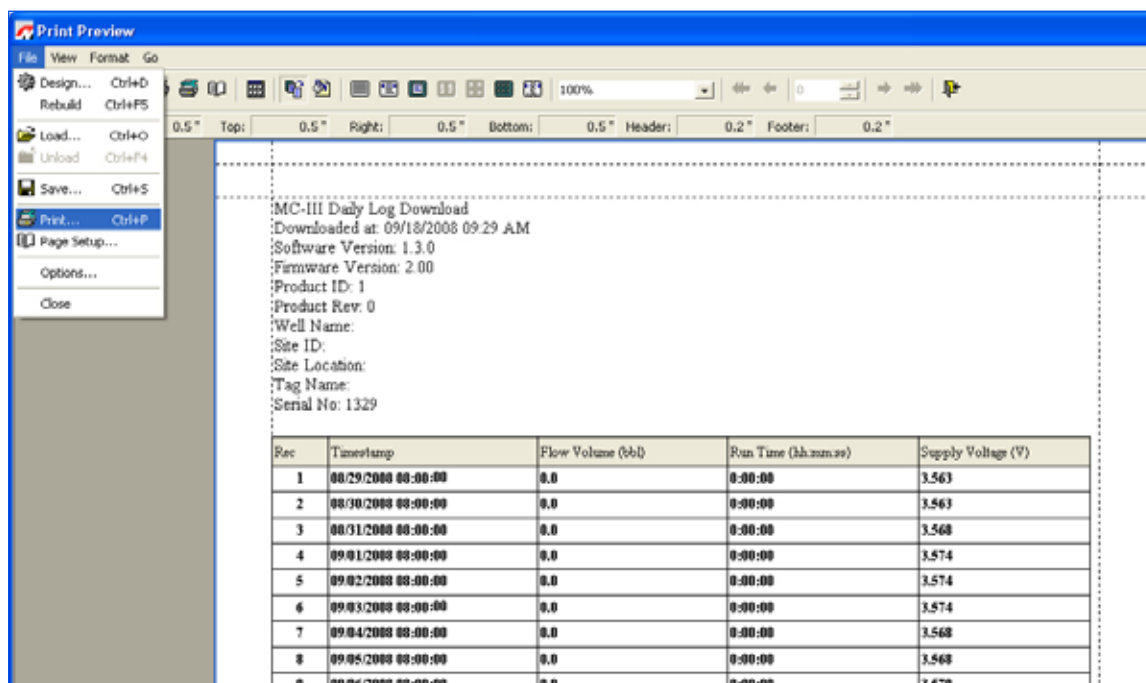
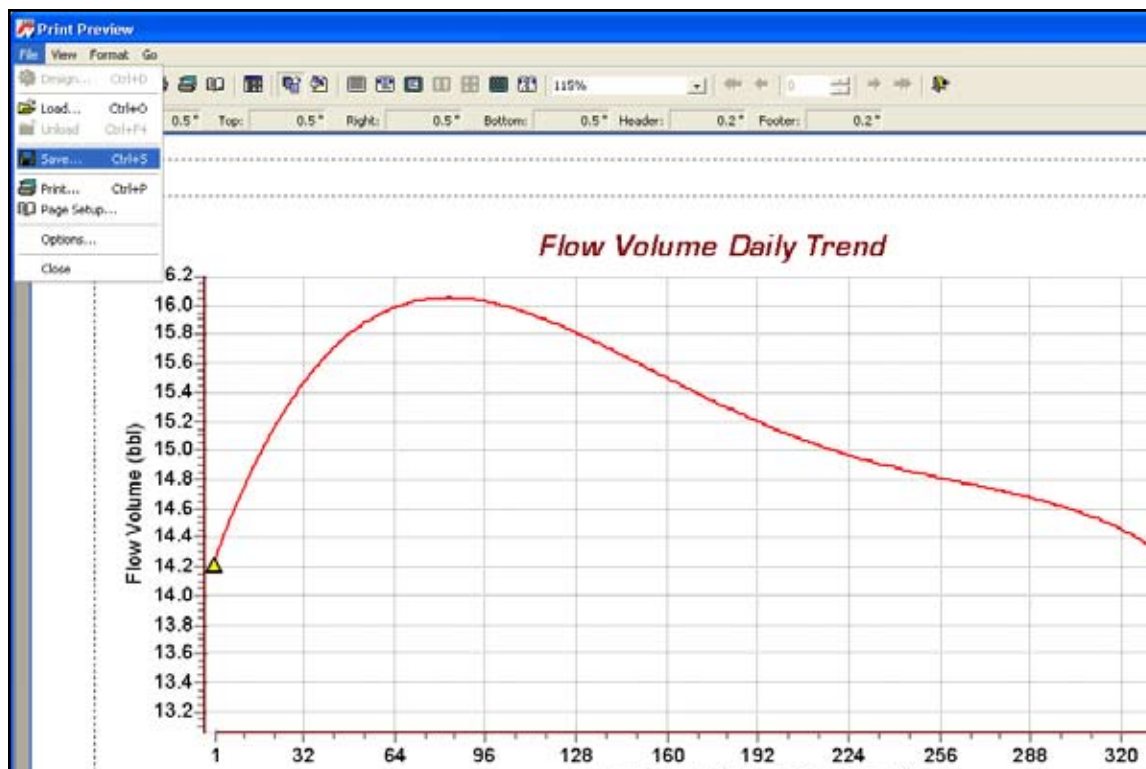
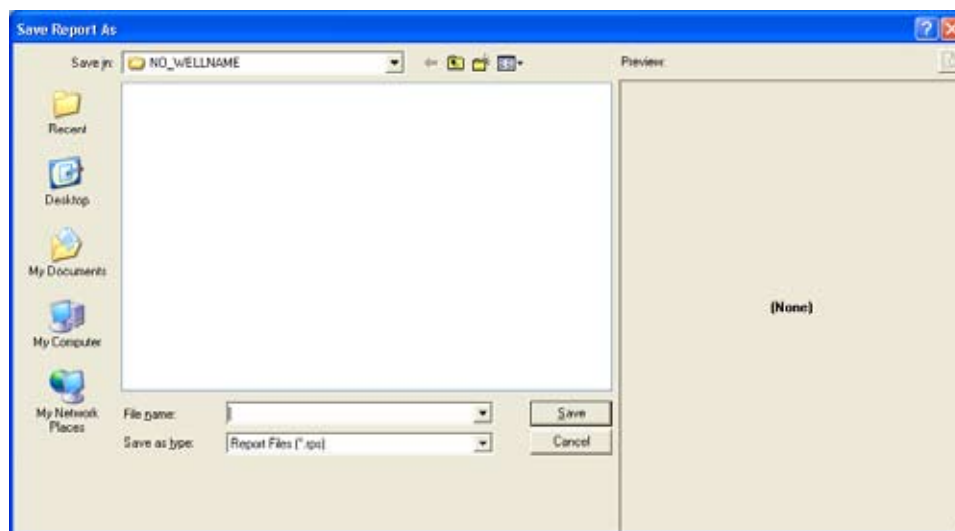

Figure 5.7—Print preview, tabular view
Figure 5.8—Print preview, trend view
Figure 5.9—Save Report As screen
A flow log can be printed and/or saved as a table (Figure 5.7, page 76) or a trend chart (Figure 5.8, page 76).
To print the report, select File>Print from the task bar (Figure 5.7).
1. Select File>Save from the task bar (*Figure 5.8*, page 76). A “Save Report As” window will open (*Figure 5.9*).